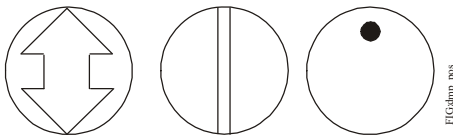

Figure 2: Damper position icons
1. Check that the damper blade is visually accessible, or its position is permanently marked on the end of the damper shaft, as illustrated in Figure 2.